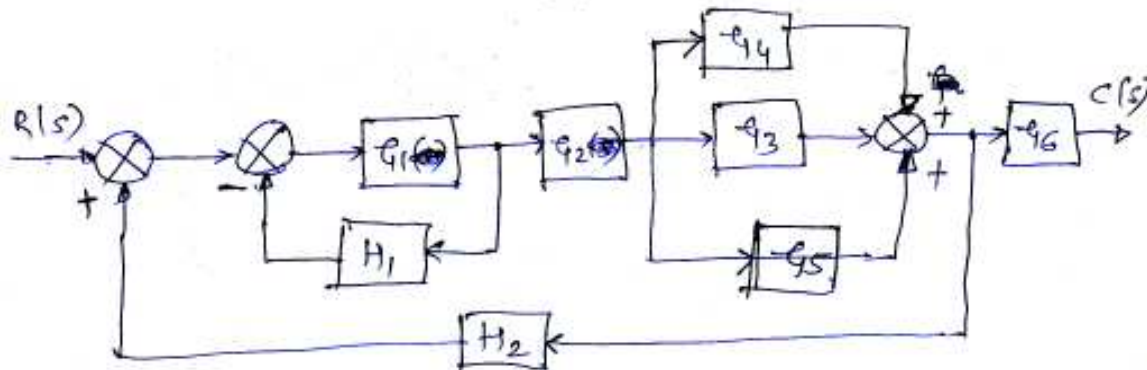

Fig. 2(a)
2. a) Using method of reduction, determine the ratio $\frac{C(s)}{R(s)}$ in the block diagram as shown in fig. 2(a).